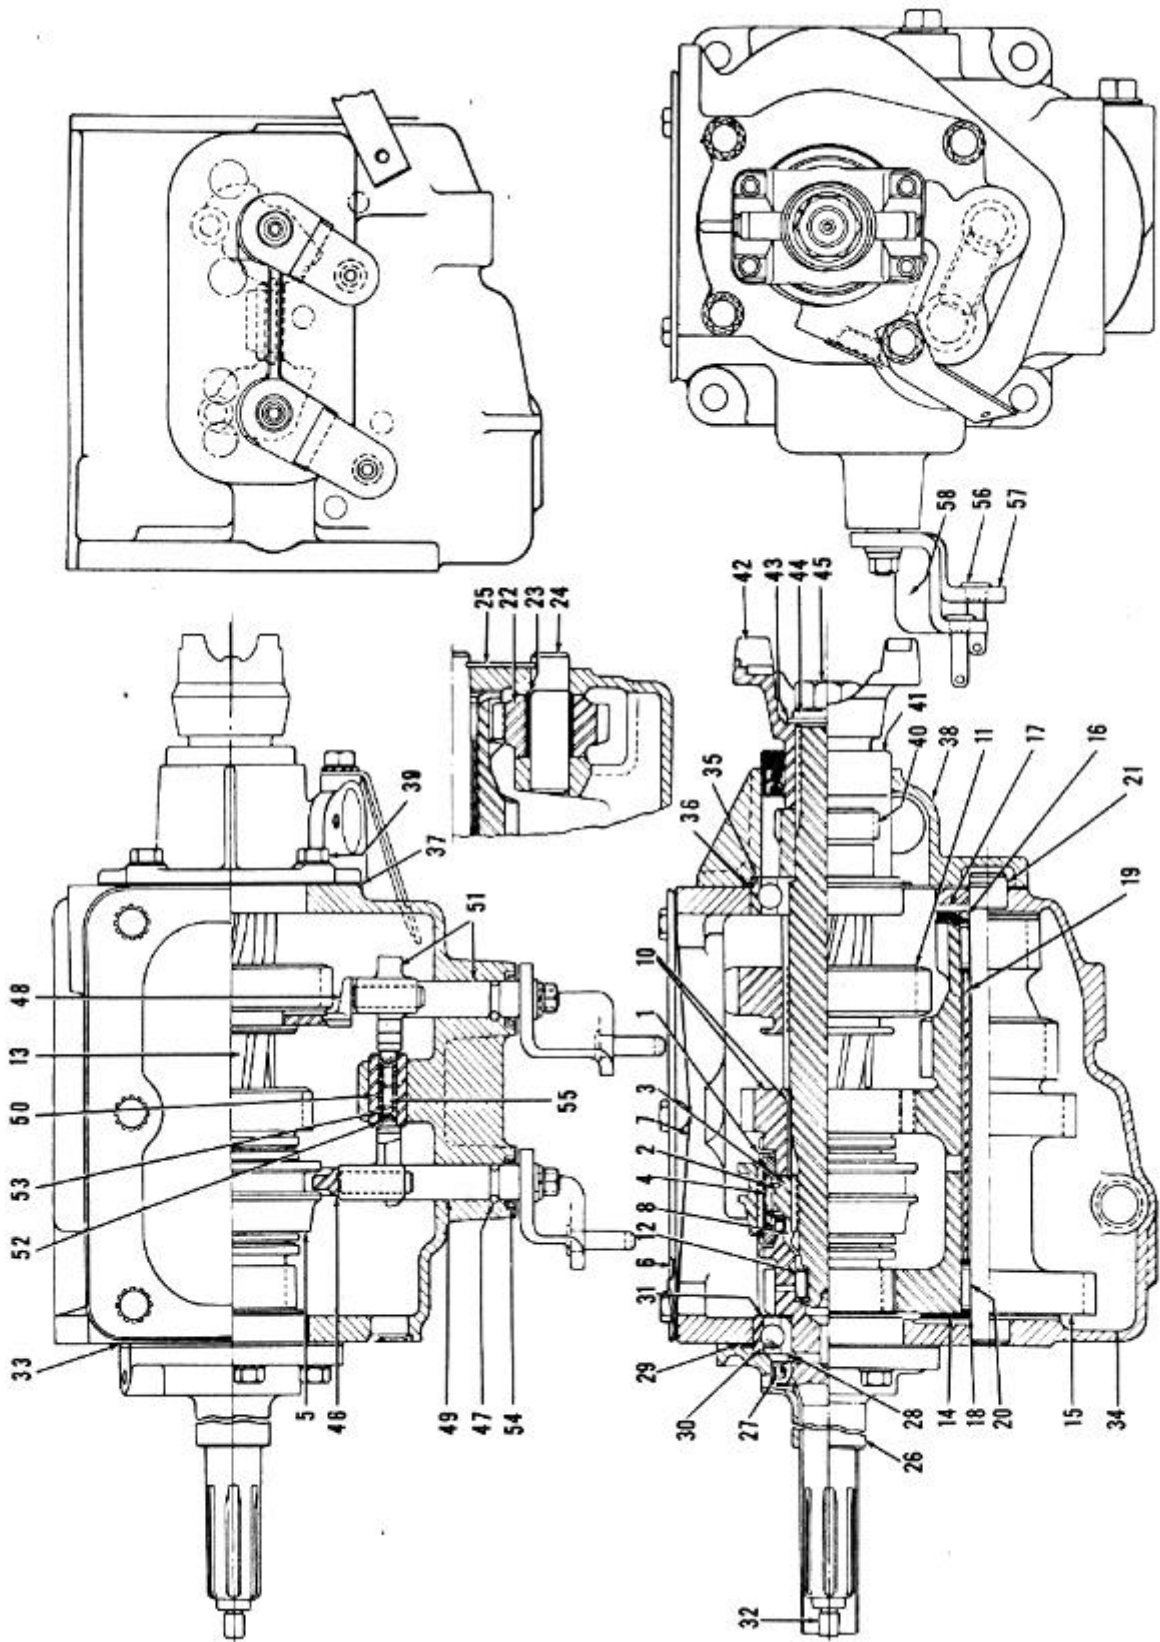

FIGURE 30
- B. Loosen control wire casing anchor bracket bolt. Pull upper anchor bracket (18) up until all slack is out of casing and the shift shaft inner lever is fully over into the low and reverse shifter. (Check this in transmission). Tighten anchor bracket bolt (35) Figure 30. The control wire anchor should have clearance at top and bottom.
NOTE: Check shift selector lever (26) Figure 30 to which cross shift control wire is attached, to be sure the lever is tight on its shaft. Check bracket (19) to be sure it is tight on the transmission case.
C. The "Gear Shift" control should be inspected and if the gear control lever (1) Figure 30, is not in a true crosswise position when in neutral, it should be adjusted by removing the cotter pin and clevis pin at the front end of the control tube to transmission rod (27). Loosen lock nut (32) and turn clevis (30) in the rod. When properly adjusted (transmission in neutral and Gear Shift control lever exactly crosswise), the clevis pin hole in the clevis (30) will line up with the hole in lever (39).
The backward and forward movement of the gearshift lever (1) Figure 30 imparts a rotary motion to the tube and lever (7). This rotary motion moves the control lever to bell crank rod (38), bell crank to shift shaft outer lever rod (27) and outer shift shaft lever back and forth. The outer shift shaft lever is attached to the transmission shift shaft, an inner lever mounted on the shift shaft moves the gear into the desired positions.